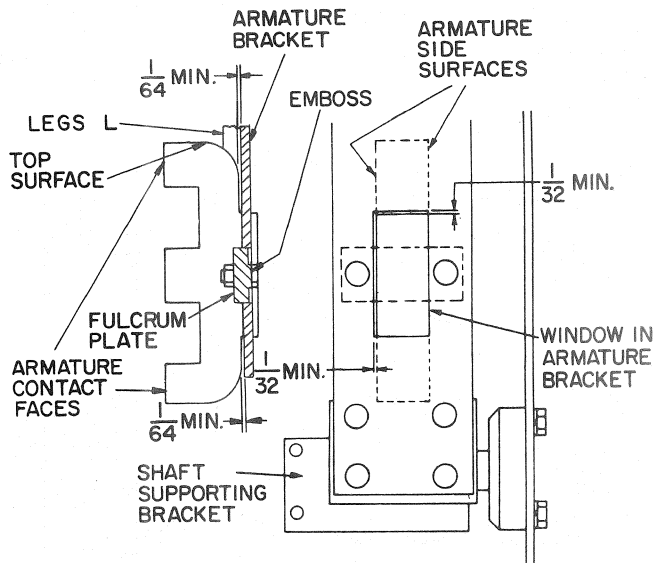

Fig. 30. A-c magnet assembly shown with contactor closed
1. The top and side surfaces of the armature and stationary-magnet (see Fig. 30), frame must be aligned within 1/32-inch. More misalignment will allow the magnets to wear unevenly and must be corrected to give the proper alignment if quiet operation is to be achieved. If the magnet contact surfaces are worn and misaligned more than 1/16-inch, and the magnet is noisy, both the armature and stationary-magnet frame must be replaced. Magnets operating with excessive noise will reduce the life of their operating coils because the picked-up magnet will eventually draw excessive magnetizing current.
3. The armature in picked-up position must have a minimum of 1/64-inch spacing between it and its armature bracket. (See Fig. 30.) The fulcrum plate must always be assembled with its emboss toward its armature bracket per Fig. 30.
4. The armature bracket must be assembled to its shaft supporting bracket in such a manner that the armature has a vertical endplay in its armature support of 1/32-inch minimum. (See Fig. 30.) The armature width is such that a side play of 1/32-inch exists. This freedom of the armature in all directions is necessary to allow it to seat properly against the magnet frame.
5. All three contact faces (see Fig. 30) of the magnet frame are machined in the same plane. The outside contact faces of the armature are machined in the same plane. All of these contact faces are machined very accurately with a good finish to allow satisfactory operation. The armature's middle leg is machined 0.003 to 0.007 inch below the plane of the outside leg. This machining was done to give magnet life without magnet operating noise.
6. Both magnets should be replaced when the armature legs are worn so that the center leg hits on the center leg of the magnet frame. Both magnets which are worn at all with the misalignment present of item 1 must also be replaced, as magnets when realigned will have some rolling action present and will be very noisy.
1. Top surfaces of armature and stationary magnet (see Fig. 30) frame must be aligned within 1/16 inch. Alignment is not so important as with a-c magnets as noise problems are not encountered. Armature must be approximately centered laterally over stationary magnet frame.
3. Armature in picked-up position must have a minimum of 1/64-inch spacing between it and armature bracket. (See Fig. 30.) Fulcrum plate must be always assembled with its emboss toward its armature bracket per Fig. 30.
4. The armature bracket must be assembled to its shaft supporting bracket in such a manner that the armature has a vertical end play in its armature support of 1/32-inch minimum (see Fig. 30). Armature width is made so that a sideplay of 1/32-inch exists. This freedom of the armature in all directions is necessary to allow it to seat properly against the magnet frame.